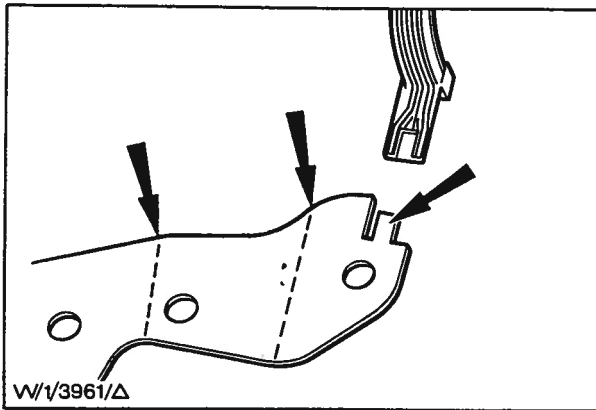

Fig. 69 - Oil Pan Front Seal and Gasket Installation - 2728T Engine
72. Apply a small bead of specified sealer to the flange joint lines of the front housing and to the rear of the block oil pan rail as shown in Fig. 69 and 70.
73. Position the front and rear seals and gaskets to the block flange, ensuring correct interlocking of cut-outs and tongues - see Figs. 69 and 70.